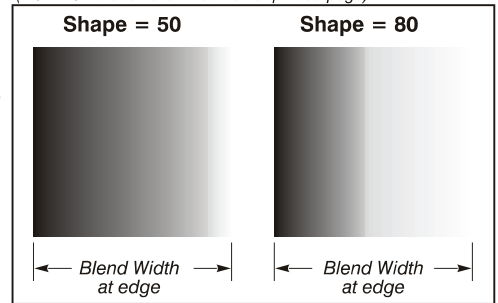

Figure 3.24. “Shape” Examples
- **Blend Shape** determines the rate of roll-off across the blend width, i.e. how quickly the white levels across the blend change from light and dark. Increasing the *Blend Shape* setting accelerates the rate of change at both extremes so that less of the region appears mid-gray (see Figure 3.24). Decreasing the *Blend Shape* setting slows the rate of change so that more of the region appears mid-gray. For most applications, this subtle control is best left close to 50.